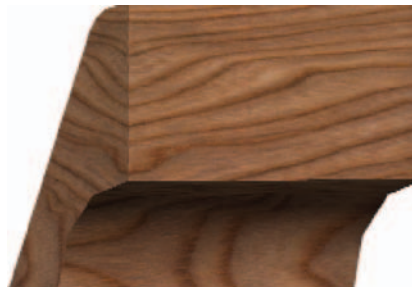

Fig. 17.17 Fourth example
Fourth example – UCS (Fig. 17.17)
4. Render the model in its new **UCS** plane (Fig. 17.17)